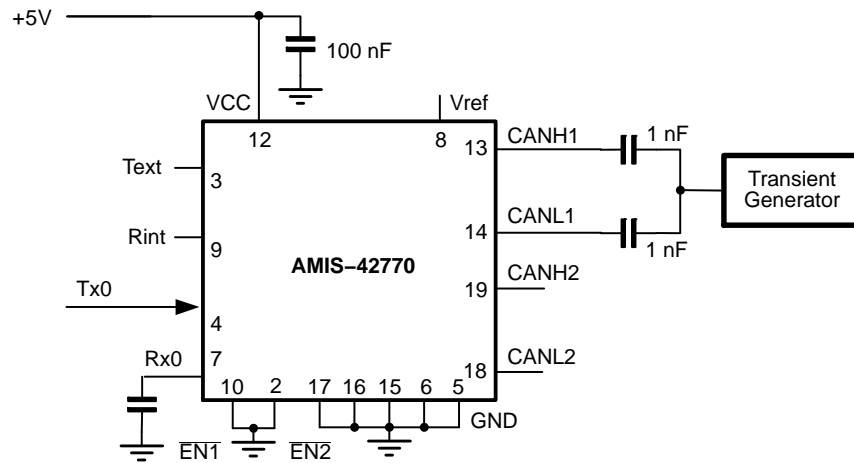

Figure 6. Test Circuit for Automotive Transients
4. Applied transient waveforms in accordance with “ISO 7637 part 3”, test pulses 1, 2, 3a, and 3b (see Figure 6)